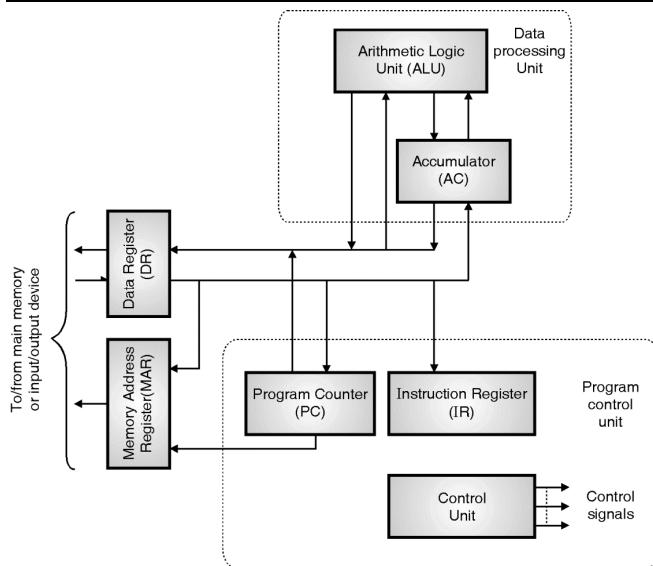

Fig. 9.3.2 : Structure of the CPU
- Fig. 9.3.2 gives the detailed structure of IAS CPU.
- The structure shown in Fig. 9.3.2 consists of the following registers.